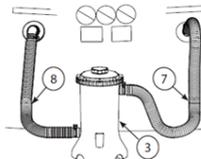

Fig. 3
6. Once the pool is full, place the filtration between these two connections on the side of the pool, app. 15cm from the ground. Inlet water hose (7), coming into the filtration case from the top, should lead to the filtration from the right, and the return hose (8), coming from the pump (in the casing's bottom), should lead to the left. See **Fig. 3**. You can fix the filtration position on the grass using the supplied steel pins.
7. Unscrew the vent bolt (6) on the filtration cover (4) by app. one and half turn. NOTE: THE SYSTEM MUST BE VENTED DUE TO AIR LEAKS DURING THE FILLING OF THE FILTRATION WITH WATER.